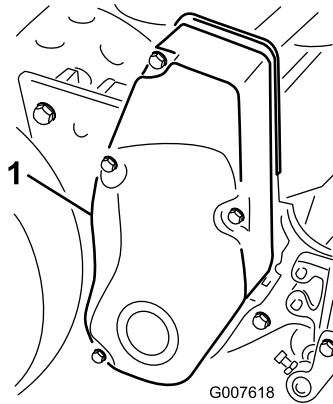

Figure 33
1. Remove the belt cover mounting fasteners and belt cover to expose the belt (Figure 33).